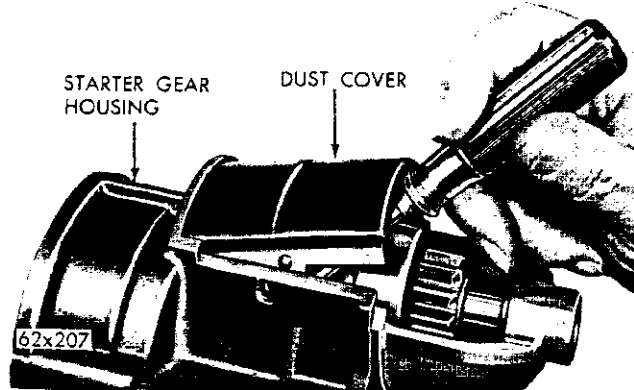

Fig. 29—Removing the Dust Cover
(18) Remove the dust cover from the gear housing (Fig. 29).